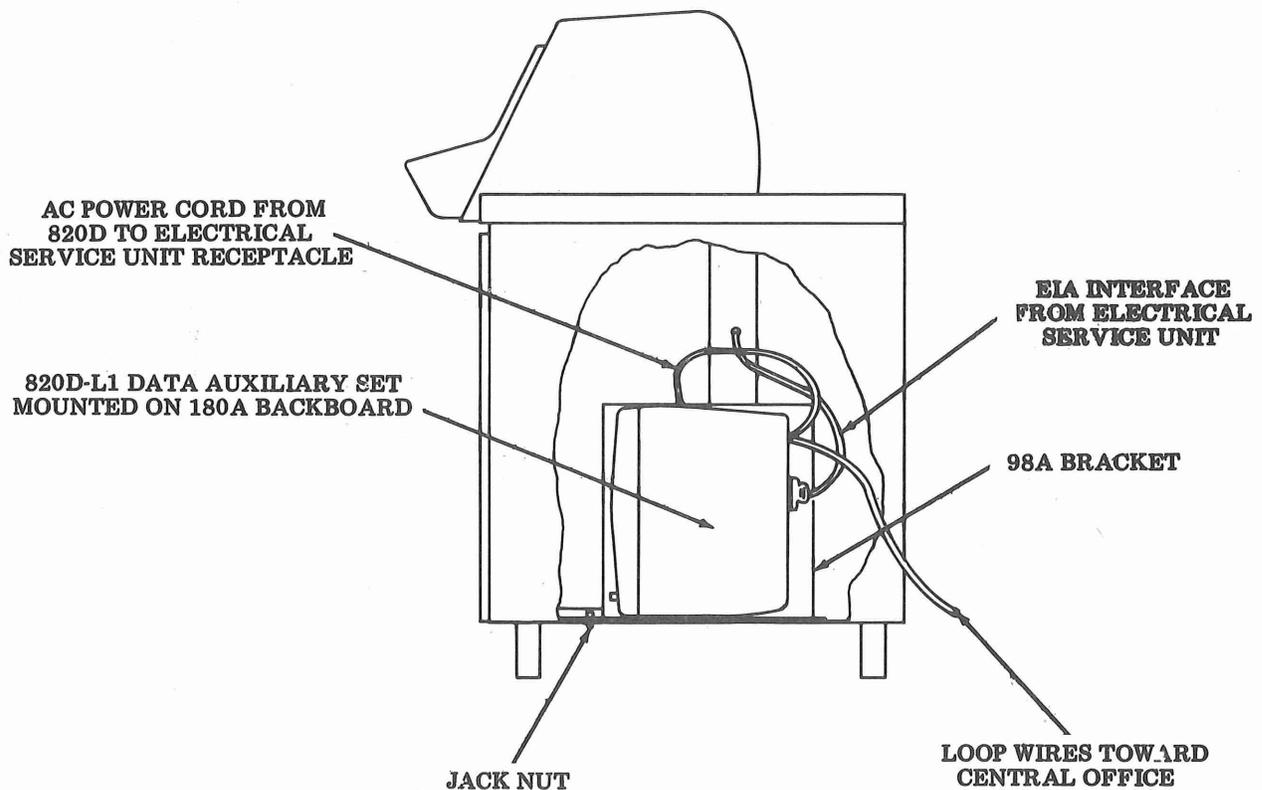

Figure 4 - 820D Mounted in Model 37 Teletypewriter
2.07 To install the 820D Data Auxiliary Set into the right pedestal of the table, perform the following procedure (see Figure 4):
(e) Direct the cables as shown in Figure 4.